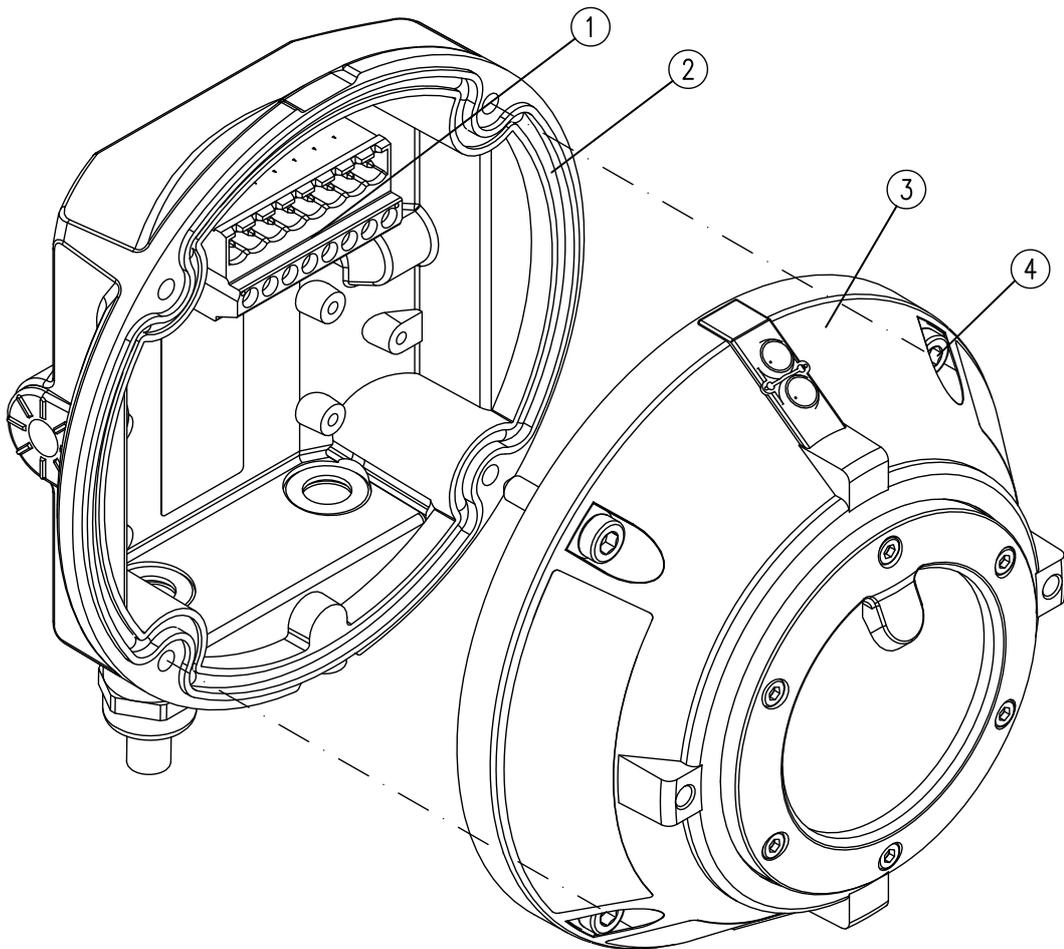

Fig. 17: Screw the FMX5000 IR Ex to the detector base
6. ➤ Place the detector (Fig. 17/3) onto the detector base (Fig. 17/2). The terminal block (Fig. 17/1) must fit into the terminal strip on the detector. The cable entries on the detector base should face down.
7. ➤ Screw the detector and detector base together with the screws (Fig. 17/4) supplied. Tighten the screws crosswise using an Allen key (size 4 mm, 3.5 Nm) in order to ensure seal tightness.
6. ▶ Place the detector (Fig. 17/3) onto the detector base (Fig. 17/2). The terminal strip of the detector must be inserted into the terminal block (Fig. 17/1). The cable entries on the detector base should face down.
7. ▶ Screw the detector and detector base together with the screws (Fig. 17/4) supplied. Tighten the screws crosswise using an Allen key (size 4 mm, 3.5 Nm) in order to ensure seal tightness.